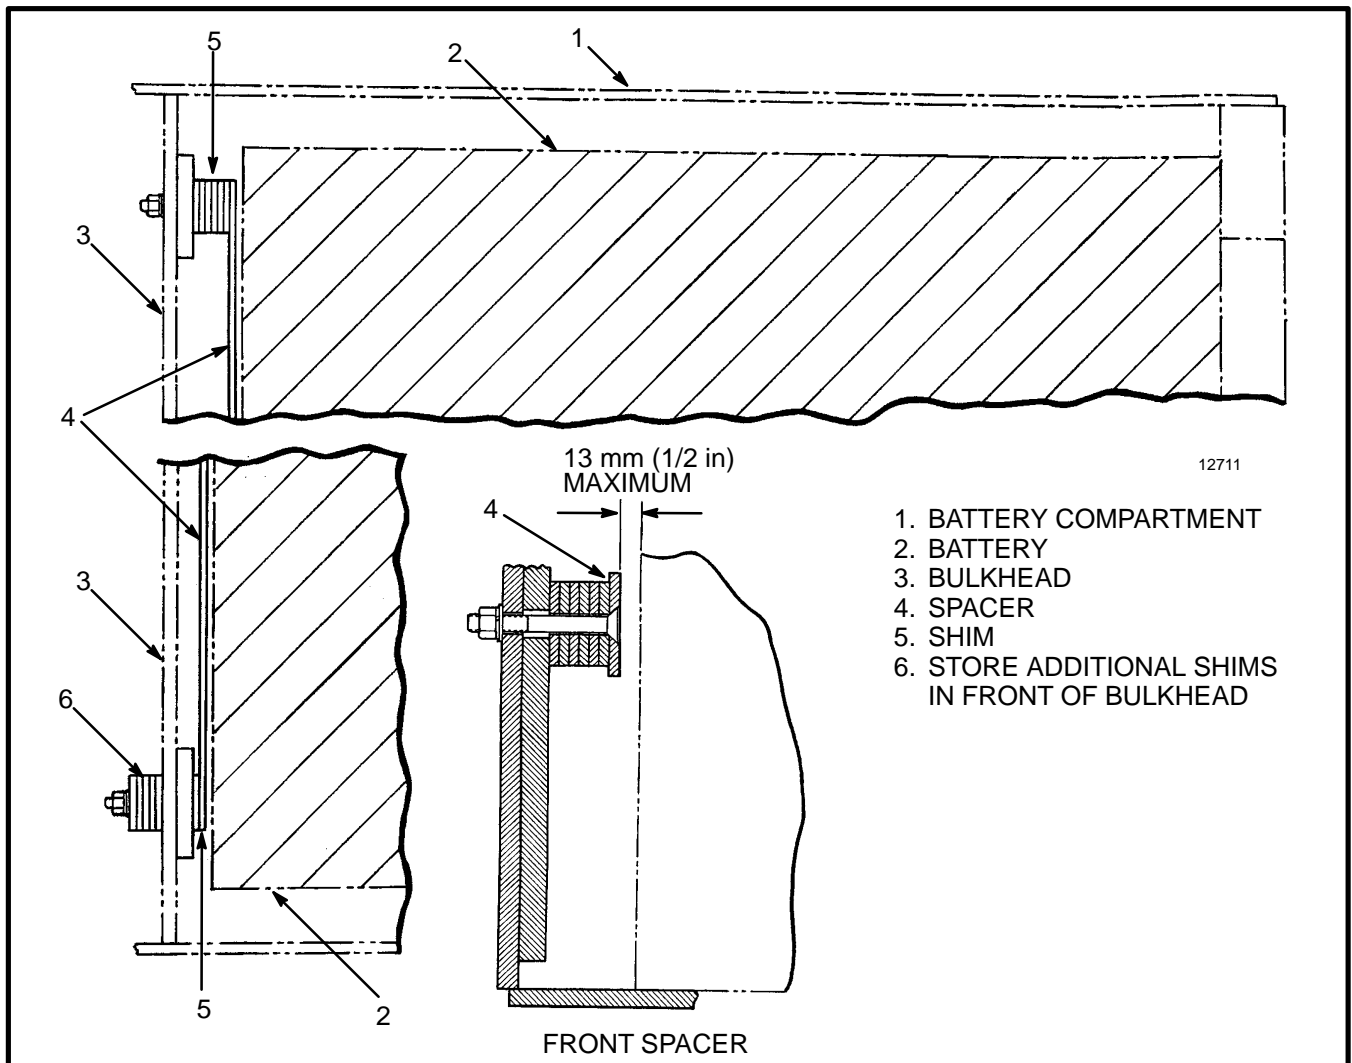
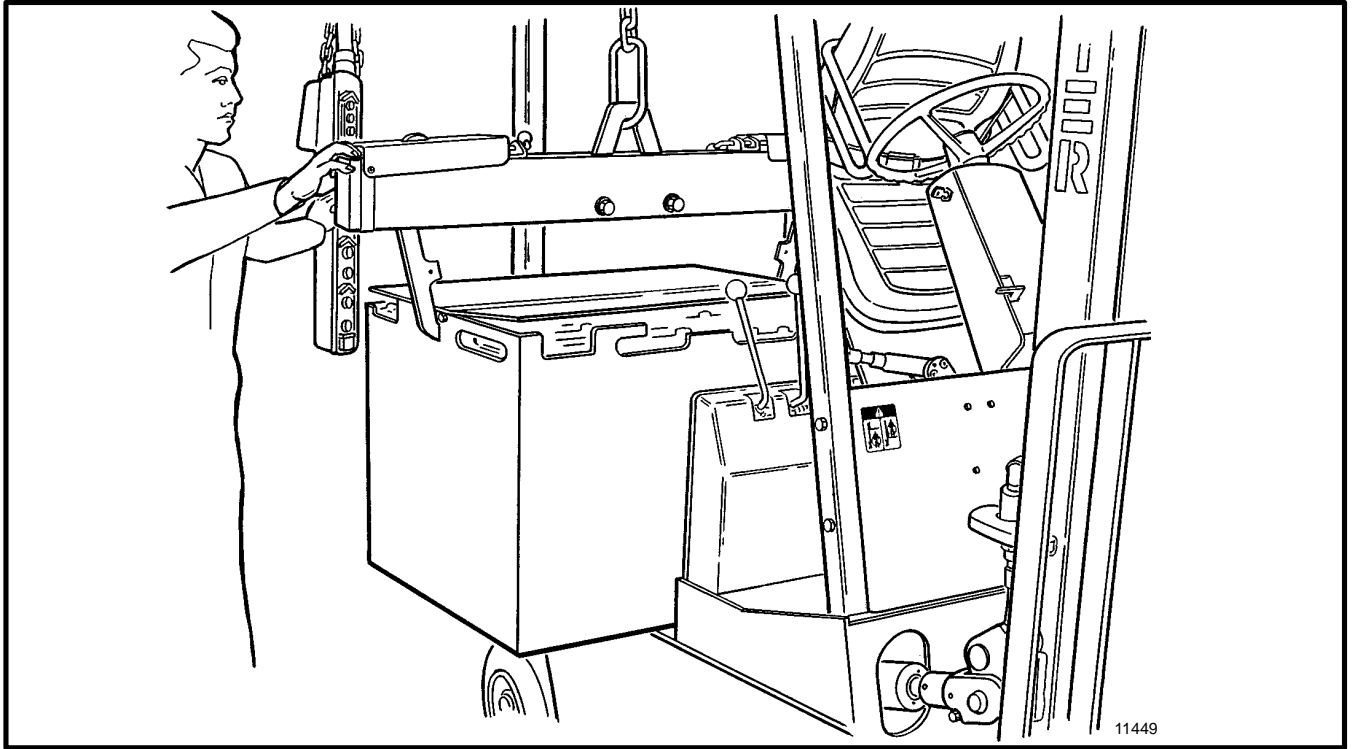

FIGURE 22. BATTERY COMPARTMENT SPACERS
FIGURE 25. CHANGE THE BATTERY
3. Use a spreader bar and crane to lift the battery from the lift truck. See FIGURE 25. When a replacement battery is installed, make sure the battery fits the battery compartment. Use spacers to prevent the battery from moving more than a total of 13 mm (0.5 in) in any one horizontal direction. See FIGURE 22.
4. The lift trucks are equipped with adjustable spacers in the battery compartment. See FIGURE 22. Add or remove shims from under the front spacer bar to control the movement of the battery in the forward and backward directions. Install an equal number of shims at each capscrew. Install the unused shims under the nuts of the capscrews (outside battery compartment). The spacers on each side of the battery can be adjusted to control the movement of the battery from side to side. Access to the nuts for the spacers for the sides of the battery is under the frame near the steer tires. Tighten all capscrews. It can be necessary to install the side spacers facing the opposite direction for some batteries. If the spacers can not be adjusted for a battery that is specified for this lift truck, see your dealer for Hyster lift trucks for the correct spacers.
3. Use a spreader bar and crane to lift the battery from the lift truck. (See FIGURE 25.) When a replacement battery is installed, make sure the battery fits the battery compartment. Use the spacers designed by Hyster Company to prevent the battery from moving more than 13 mm (0.5 in) in any horizontal direction. See the **OPERATING MANUAL** for installation of spacers.